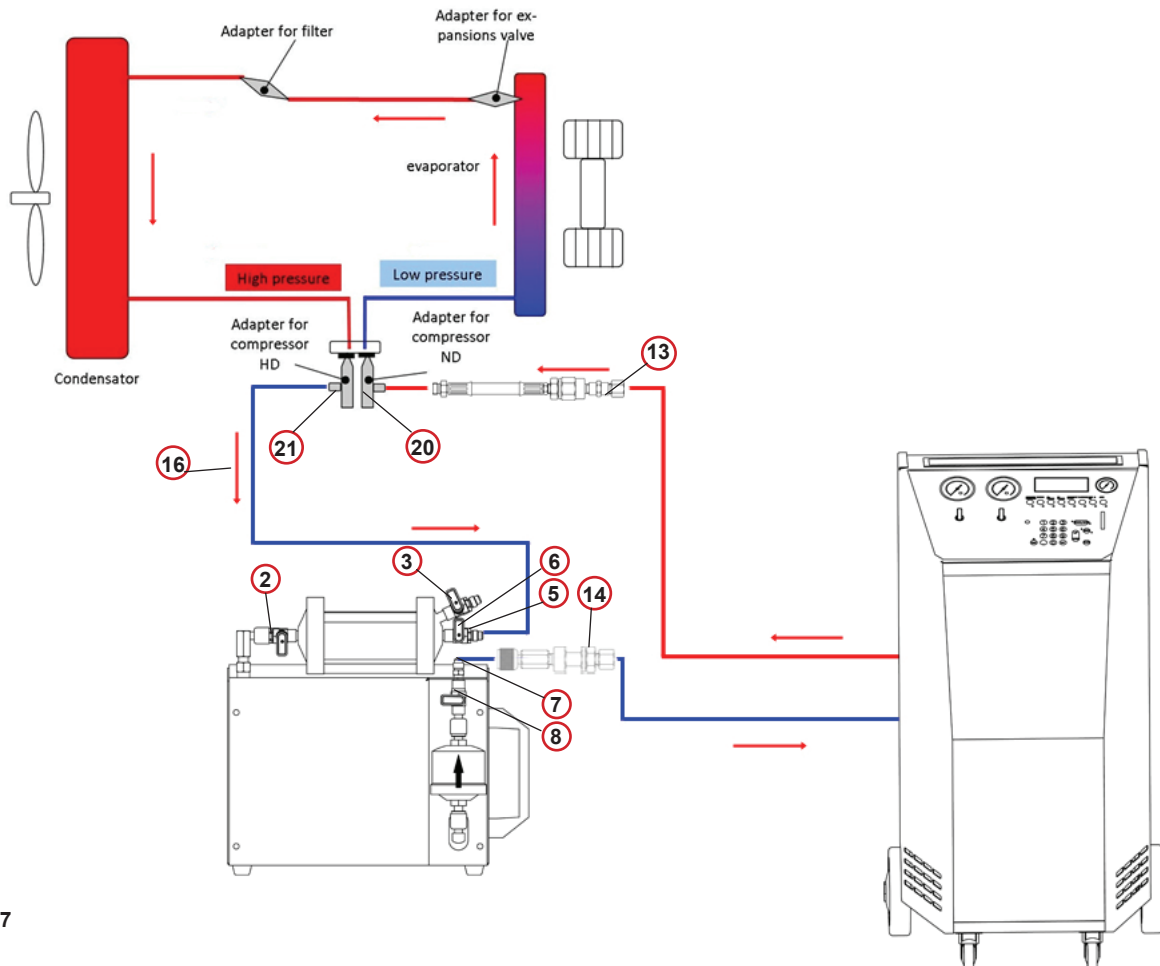

fig. 007
3. Connect the prepared **red service hose (high pressure)** of the A/C service unit to the manufacturer-specific adapter of the A/C system compressor port, **low-pressure side 20**, see *fig. 007*